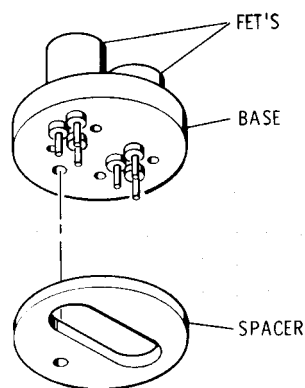

Figure 6-1 FET assembly and spacer
- 1 Insert the FET Assembly leads through the spacer and printed circuit board. Refer to Figure 6-1.